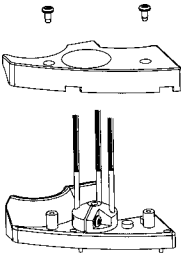

Fig. 1
1. Screw out two screws as per the Fig.1.